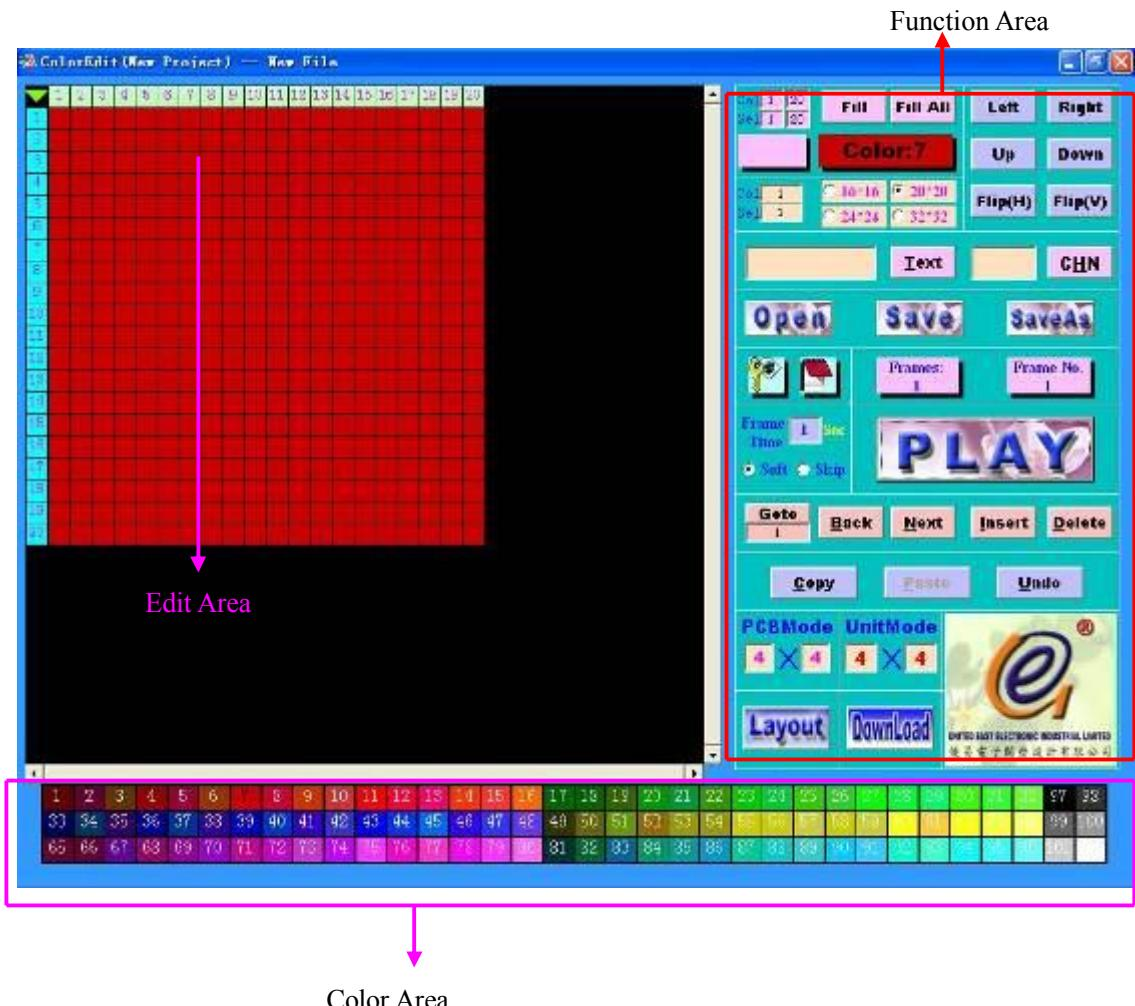

Figure1.2 Edit Interface
5、After completion of above steps, click **Edit**  to edit the program, see figure 1.2.
The Color Edit interface includes three areas of Function Area, Color Area and Edit Area, see figure 1.2.